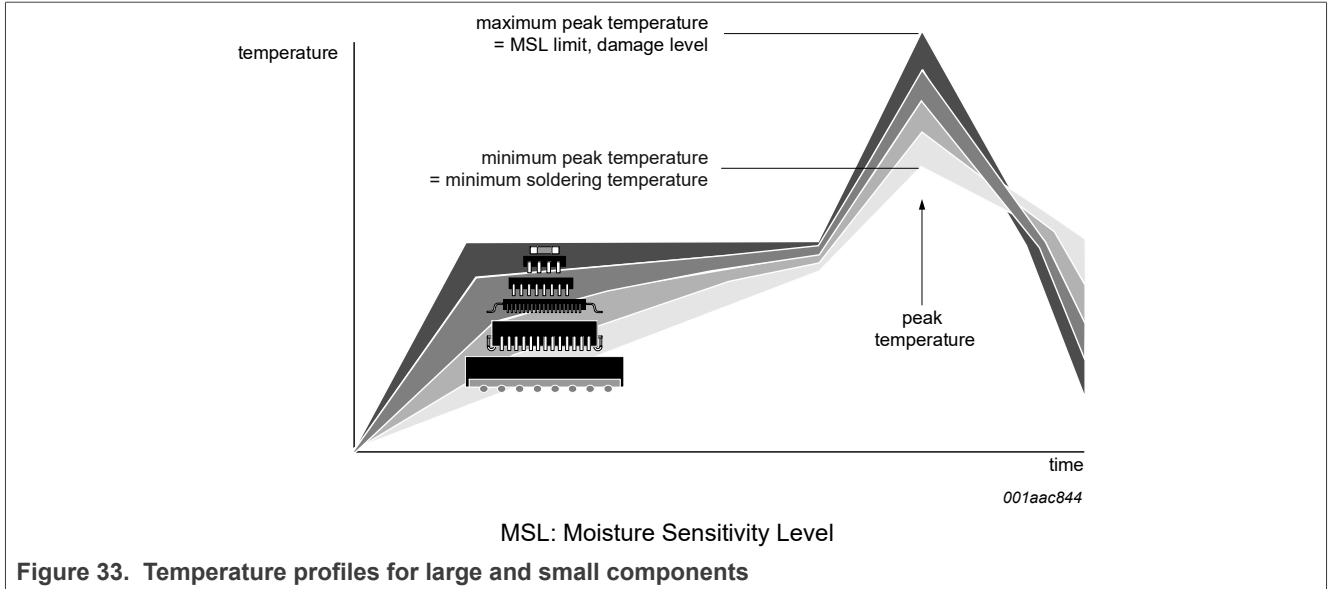

Figure 33. Temperature profiles for large and small components
- Lead-free versus SnPb soldering; note that a lead-free reflow process usually leads to higher minimum peak temperatures (see Figure 33) than a SnPb process, thus reducing the process window
Studies have shown that small packages reach higher temperatures during reflow soldering, see Figure 33.